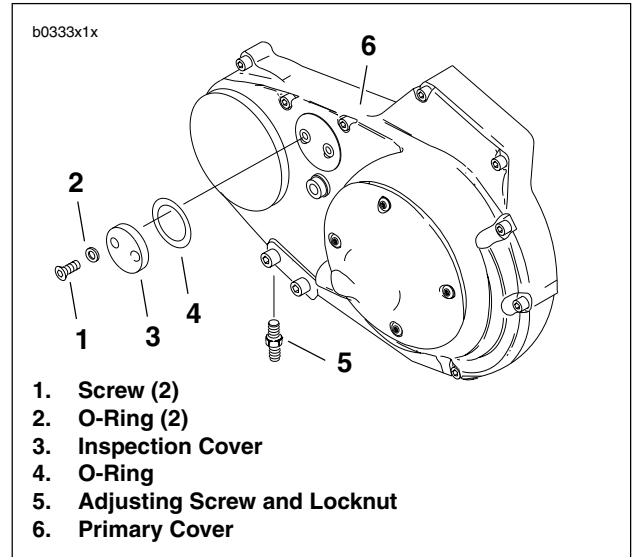
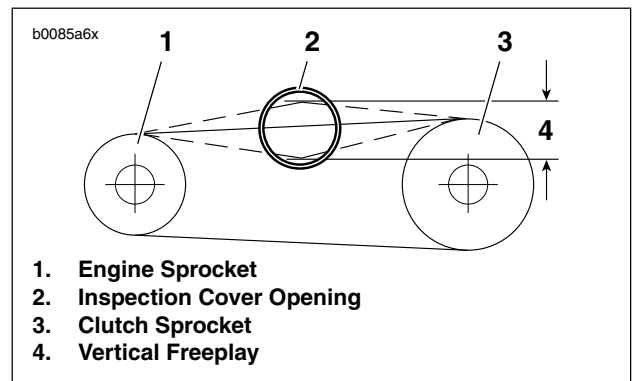

Figure 1-24. Primary Chain Inspection Cover
Figure 1-25. Measuring Primary Chain Tension
See Figure 1-24. Measure primary chain tension through the inspection cover (3) opening. Adjust primary chains not meeting vertical freeplay specifications.
1. See Figure 1-24. Remove two screws (1) and O-rings (2).
2. Remove inspection cover (3) and O-ring (4) from primary cover (6).
3. See Figure 1-25. Check primary chain tension by measuring vertical freeplay (4).
- a. Measure vertical freeplay through inspection cover opening (2).
5. See Figure 1-24. Install O-ring (4).
6. Fasten inspection cover (3) to primary cover (6) using two screws (1) with O-rings (2). Tighten to 40-60 in-lbs (5-7 Nm).